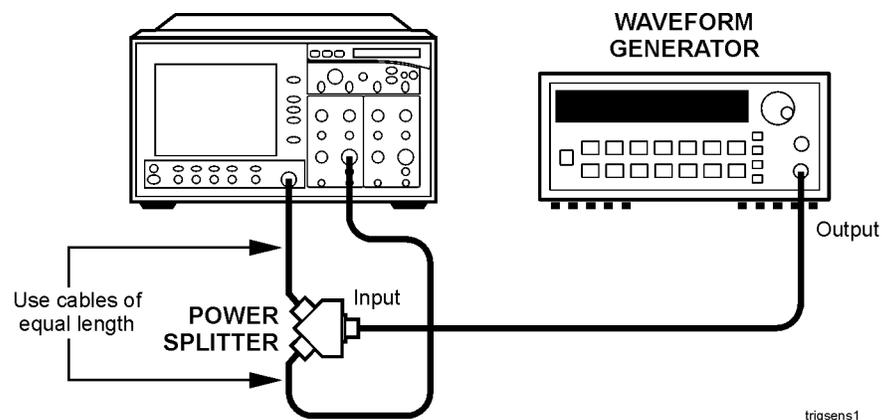

Figure 2-15. Trigger Sensitivity Equipment Setup
- 6 Connect the equipment as shown in Figure 2-15.